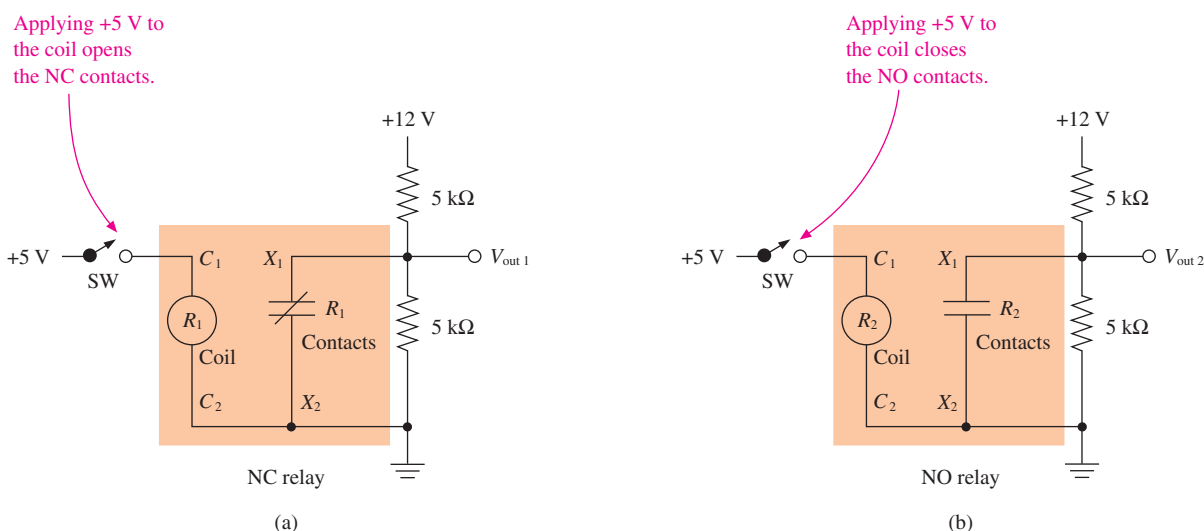

Figure 15 Symbolic representation of an electromechanical relay: (a) NC relay used in a circuit and (b) NO relay used in a circuit.
In Figure 15 a relay is used as a shorting switch in an electric circuit. The +5-V source is used to energize the coil, and the +12-V source is supplying the external electric circuit. When the switch (SW) in Figure 15(a) is closed, the relay coil will become energized, causing the relay contacts to open, which will make V_{out} change from 0 V to 6 V with respect to ground. The voltage-divider equation is used to calculate V_{out} as follows:
When the switch in Figure 15(b) is closed, the relay coil becomes an **energized relay coil**, causing the relay contacts to close, changing V_{out2} from 6 V to 0 V.